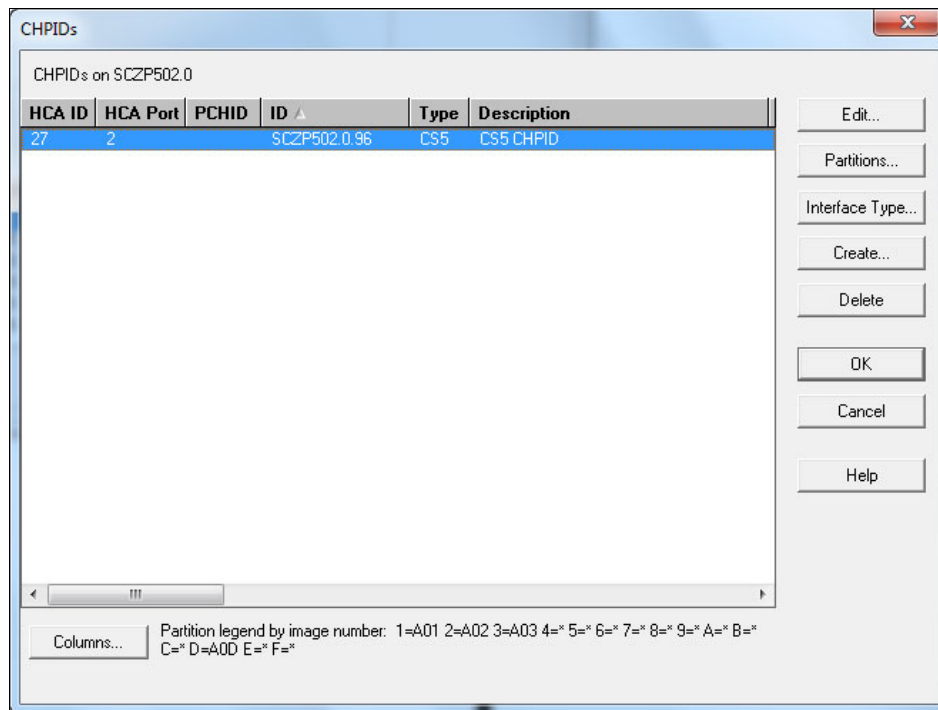

Figure 6-29 HCM - CHPIDs: second CS5 CHPID defined
15. Select the required Access and Candidate LPARs for CHPID access list. In our example we use LPAR A0D (CF) and A01, A02 and A03 (OS), and no Candidate LPARs. Then click **OK**.
16. Now observe the CS5 CHPID defined in the CHPID summary list (Figure 6-29).